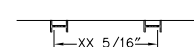

FIG. 3
- If only one hang-on component is being hung on the wall track, the wall track may be spaced so the outside slots are used. (Figure 3).